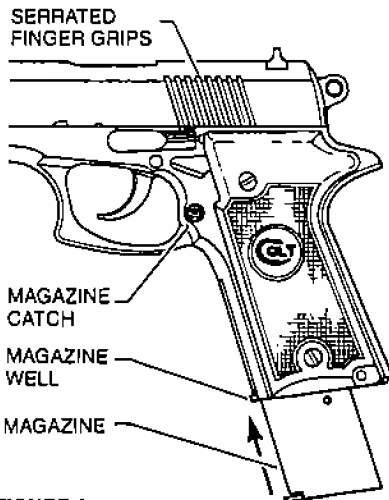

FIGURE 4—
2. Remove magazine from pistol. Place your hand under magazine to prevent it from falling and press magazine catch (located on left of pistol behind trigger guard) to drop the magazine out of the magazine well. (See Figure 4)